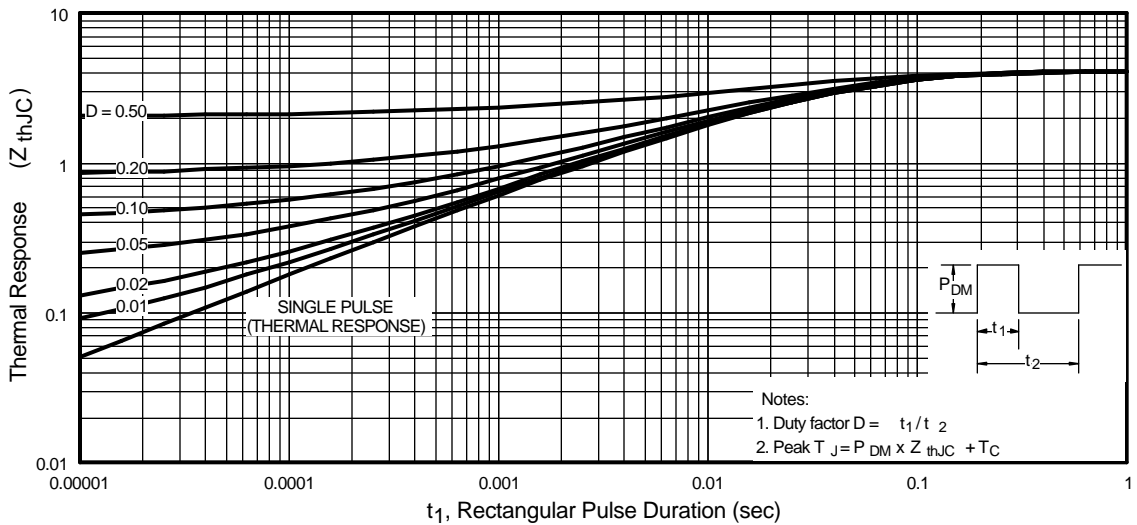

Fig 11. Maximum Effective Transient Thermal Impedance, Junction-to-Case
- ① Repetitive rating; pulse width limited by max. junction temperature. (See fig. 11)
- ② Starting $T_J = 25^\circ\text{C}$, $L = 3.6\text{mH}$